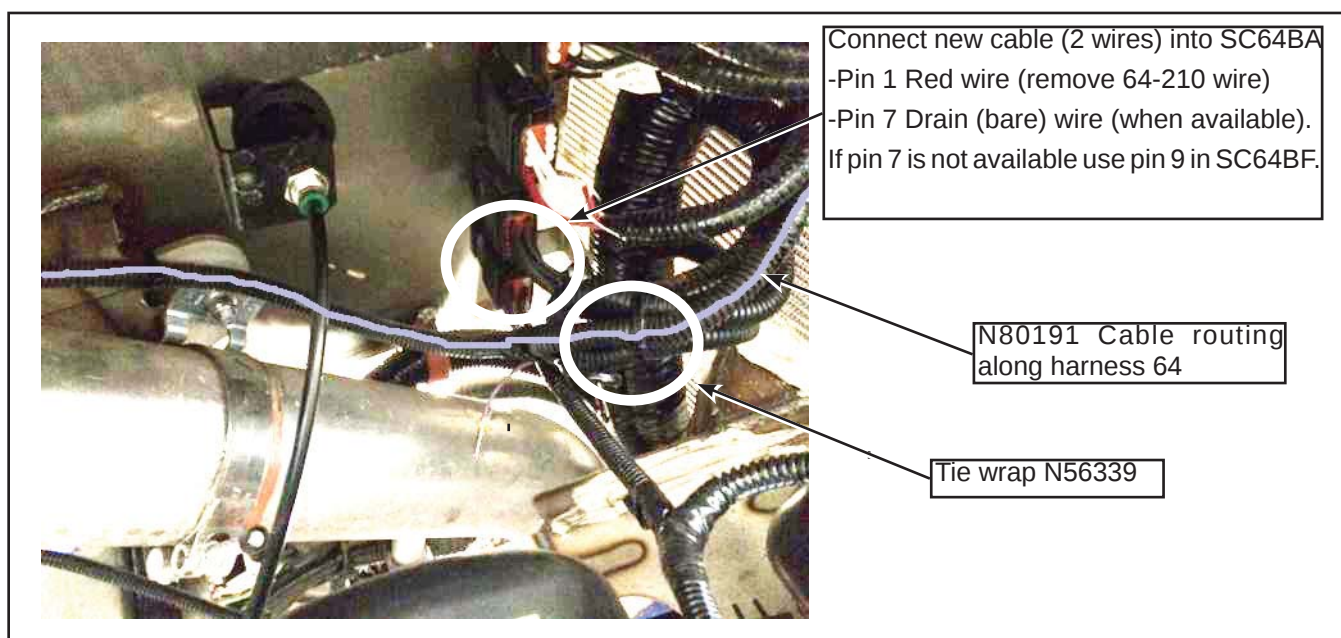

Figure 6 - N80191 Cable Routing Along Harness 64
- 1.7. Connect the two wires of segments C and D from new cable into SC64BA. Remove wire 64-210 from pin 1 and connect the red wire. Connect the drain wire to pin 7, if pin 7 is not available use pin 9 in SC64BF (see Figure 6).